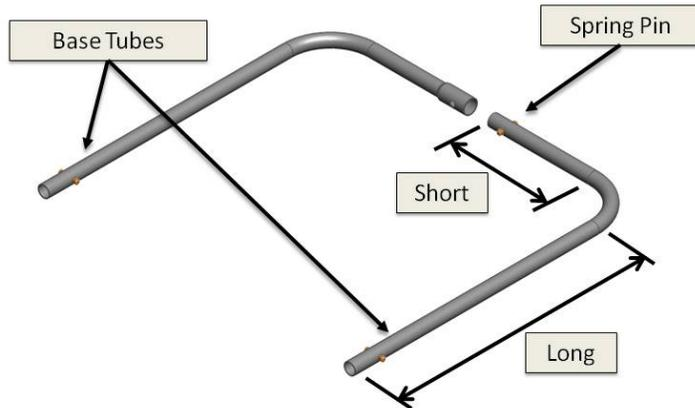

FIGURE 4
4. Connect Base Tubes together as shown in Figure 4.